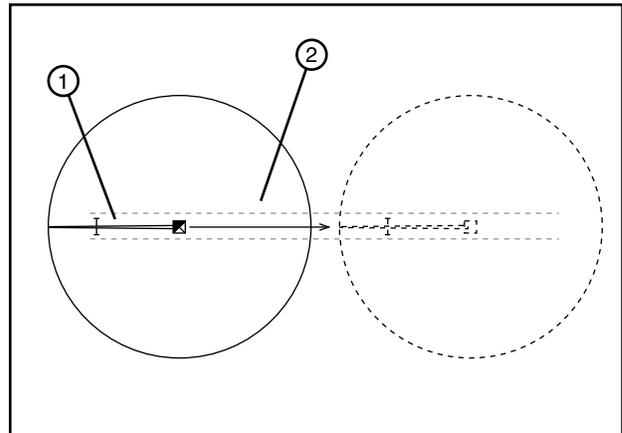

Figure 33-1 1. Machine
1. Position the machine in the tow lane. See figure 33-1.